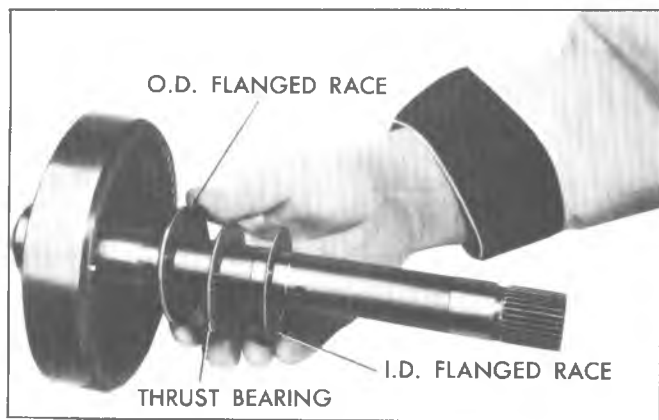

Fig. 7A-143C--Installing Rear Internal Gear to Sun Gear Bearing and Races
- a. Place large race against internal gear with outer flange facing forward or up (Fig. 7A-153C).